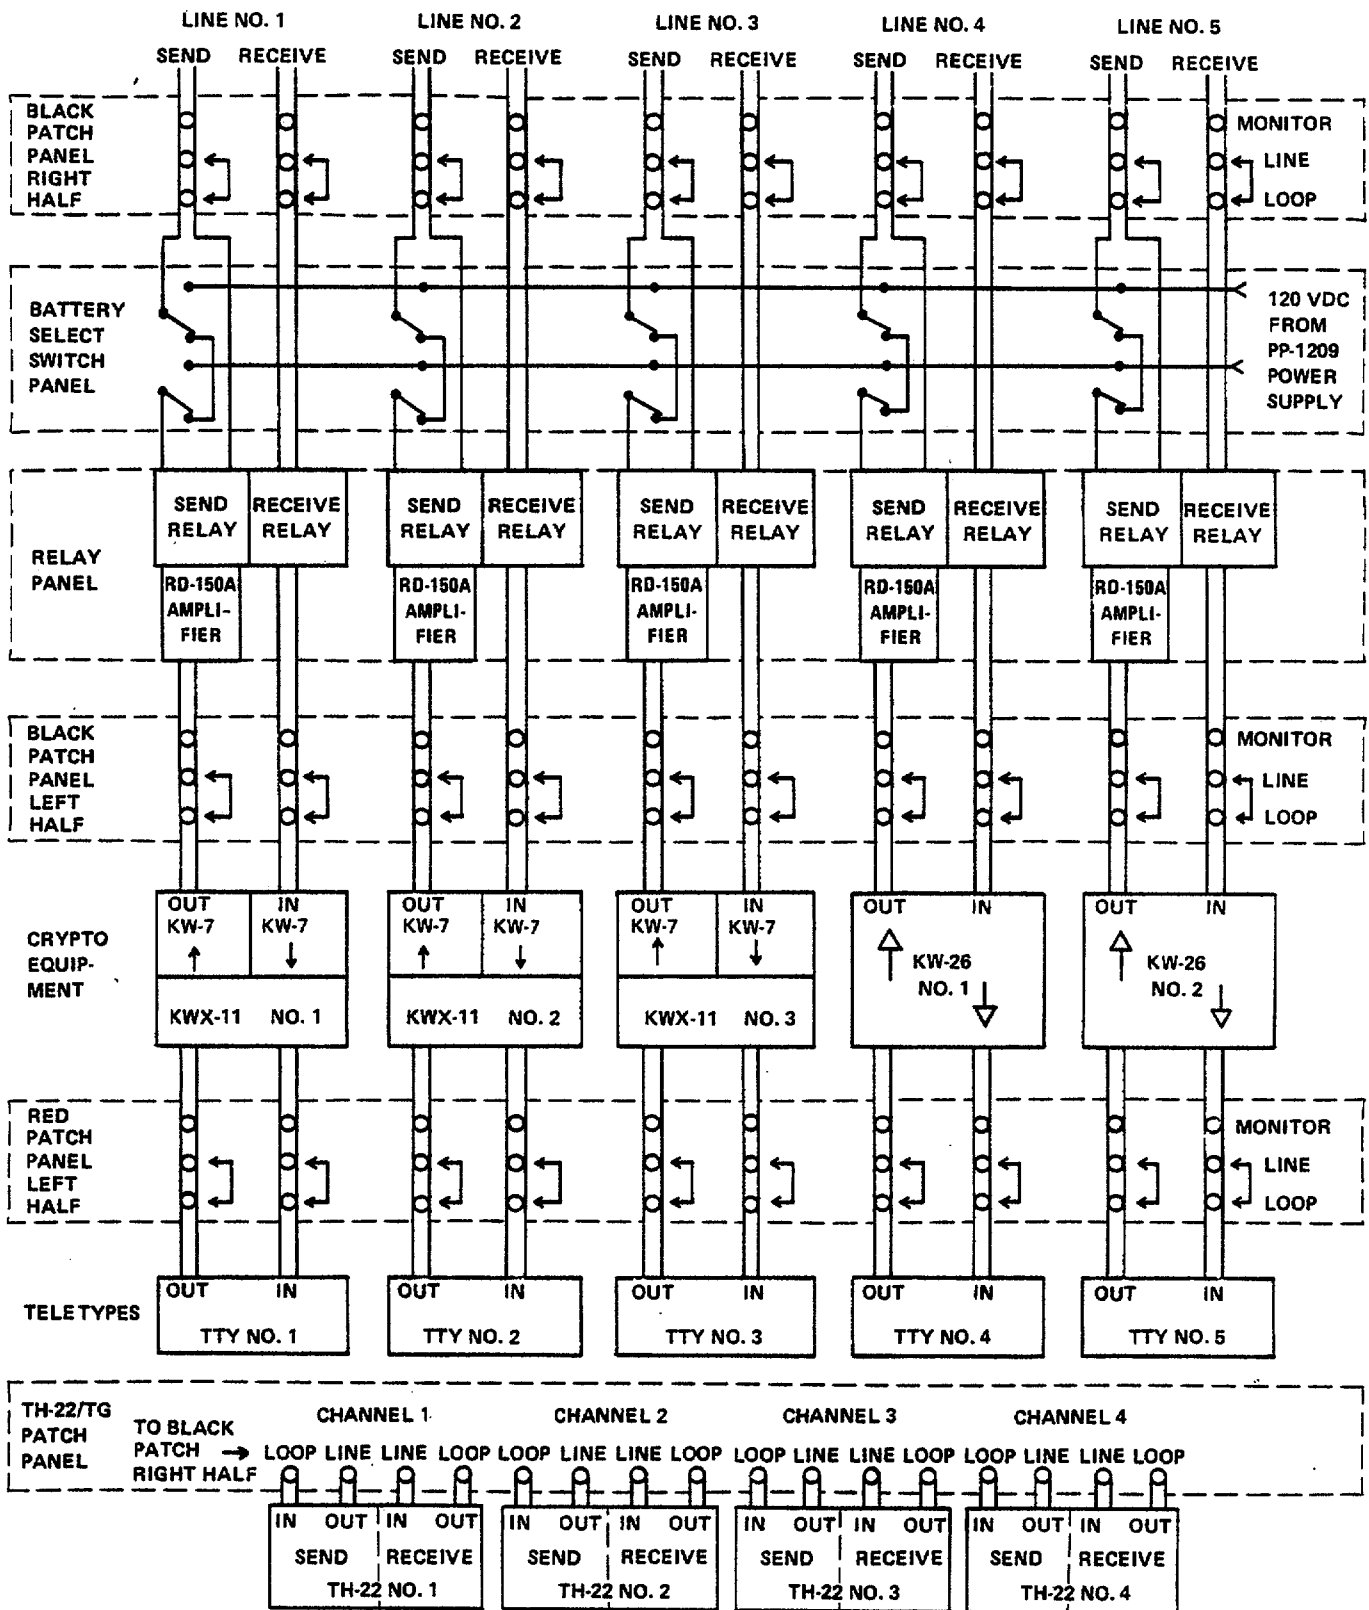

Figure 6-1. AN/TSC-75A Block Diagram
a. *Operation.* Five sets of equipment send and receive signals on five lines as shown in figure 6-1. The equipment also enables the operators, by means of patch panels, to select alternative equipment when desired or required.
b. *Patch Panel Operation.* Two patch panels enable any of the five teletype units to operate with any of the three KWX-1 1 units and KW-26 units in any combination. The two patch panels also enable the three KWX-1 1 and two KW-26 units to operate in any combination on the five signal lines. Figure 6-1 illustrates the various patching capabilities of the AN/TSC-75. When no patching is performed, the following configuration of the AN/TSC-75 exists:
- (1) TTY No. 1 unit operates with No. 1 KWX-11, and No. 1 KWX-11 operates on external signal line No. 1.
- (2) TTY No. 2 unit operates with No. 2 KWX-11, and No. 2 KWX-11 operates on external signal line No. 2.
- (3) TTY No. 3 unit operates with No. 3 KWX-11, and No. 3 KWX-11 operates on external signal line No. 3.
- (4) TTY No. 4 unit operates with No. 4 KW-26, and No. 1 KW-26 operates on external signal line No. 4.
- (5) TTY No. 5 unit operates with No. 5 KW-26, and No. 2 KW-26 operates on external signal line No. 5.
c. *Signal Flow.* The transmitted teletype signal is produced at TB1 and applied through the Red patch panel left half to the crypto equipment. The encrypted data signal is applied to the Black patch panel left half and the send relay amplifier. The amplifier drives the relay with +6 Vdc and -6Vdc signals from the 6 volt power supplies through a fuse and ballast lamp. The send relay applies a 120-volt encrypted data signal to the line in the Mark position from the 120 Vdc power supply through the battery select switch. The encrypted signal is presented to the external connector box. The received signal enters at the external connector box and is applied through the Black patch panel right half to the receive relay. The encrypted data signal operates the relay to produce a +6 Vdc signal during the Mark condition and a -6 Vdc signal during the space. The data signal is applied through the Black patch left hand to the crypto equipment. The unencrypted data signal is applied through the Red patch to TC3 of the teletype (figure 6-1 and FO-2).